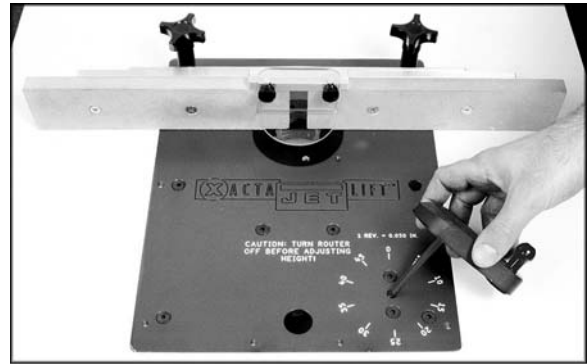

Figure 16
- With the router bit installed, place the adjustment handle into access port in the main plate (Fig. 16).